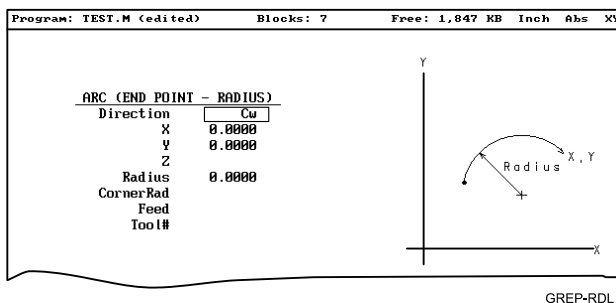

Figure 4-13, ARC (END POINT - RADIUS) Graphic Menu
2. Press **Arc (F4)** to display the **ARC (END POINT - RADIUS)** graphic menu. Refer to **Figure 4-13**.